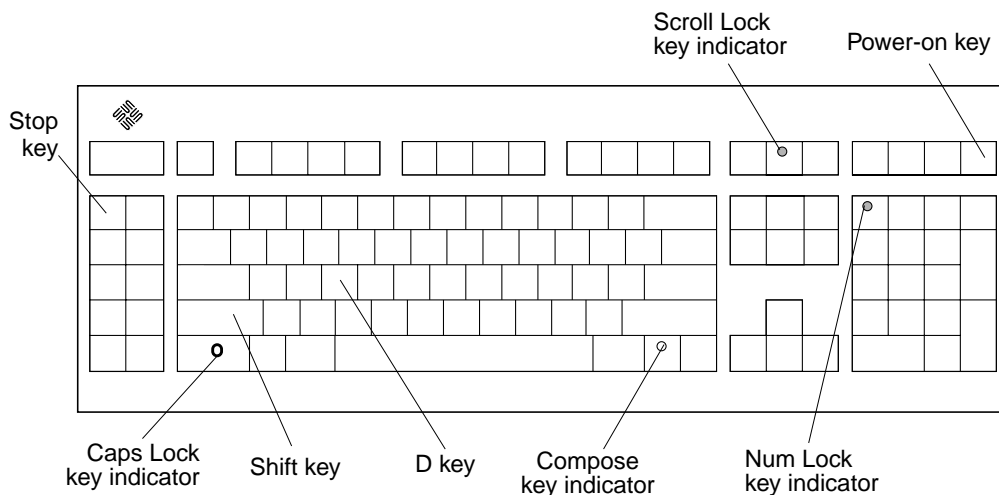

FIGURE 3-1 Sun Type-5 Keyboard
2. At the Sun type-5 keyboard, power cycle the system by simultaneously pressing the shift key and the power-on key (FIGURE 3-1). After a few seconds, press the power-on key.